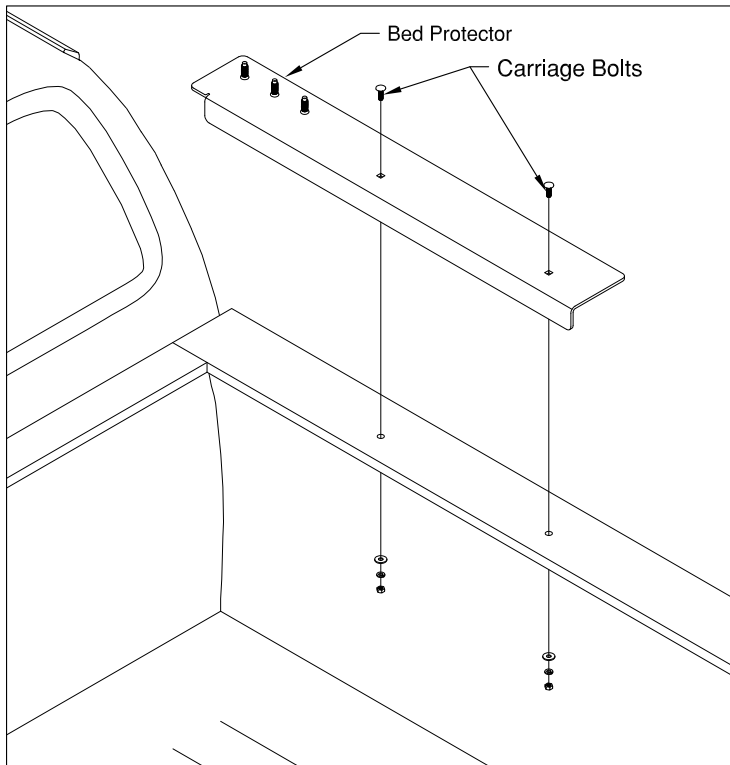

FIGURE A1: PASSENGER BED CORNER
1. **Verify proper fit of Cab Protector.** Place the bed protectors on the pickup sides as shown in figure A1. Make sure the Bed Protector flange is pushed tightly against the front of the bed and the inside of the bed sides. Measure across the truck from the center of the middle threaded stud on the driver side to the center of the middle stud on the passenger side. Next measure the distance between the centers of the slots at the bottom of the cab protector. The two measurements should be within 1/2" of each other.